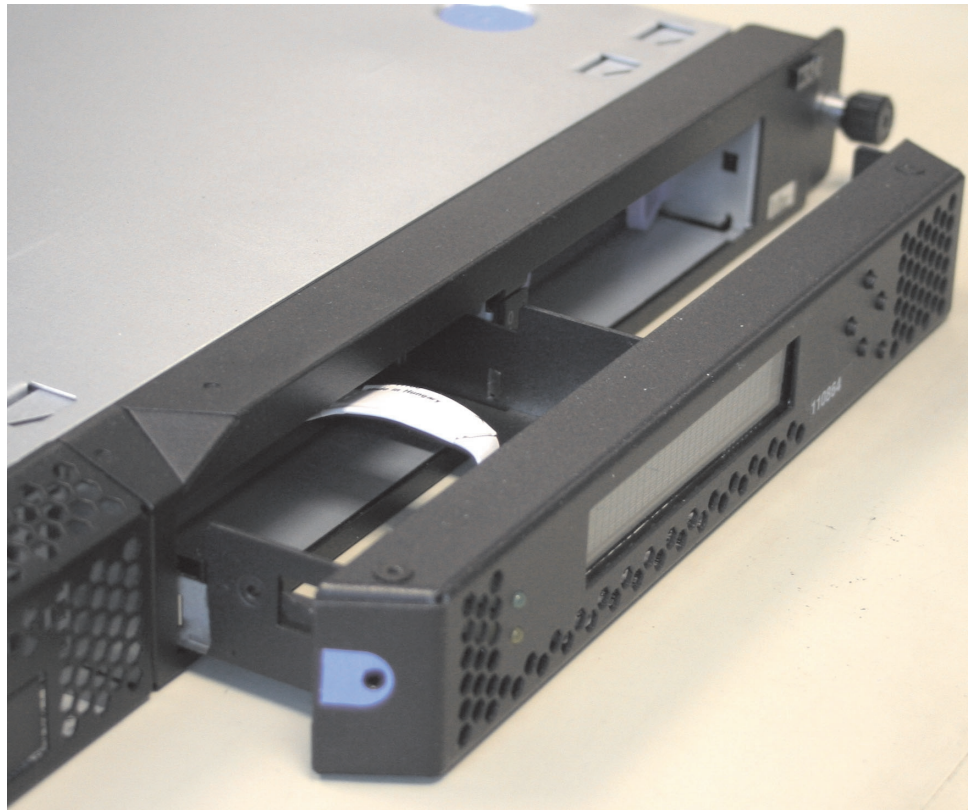

Figure 68. SAN Volume Controller 2145-8A4 service controller
1. Gently push the service controller (shown in Figure 68 on page 87) into the frame until the rear connectors are fully seated and the service controller front metal work is up to the frame.